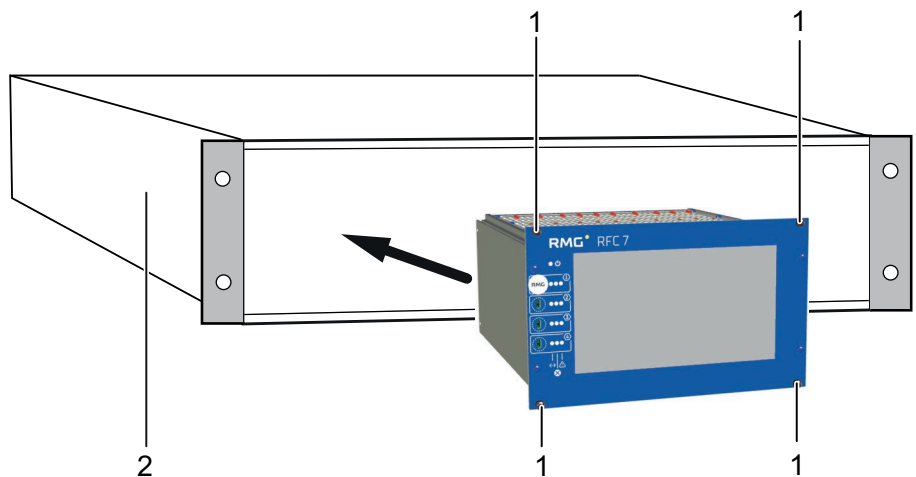
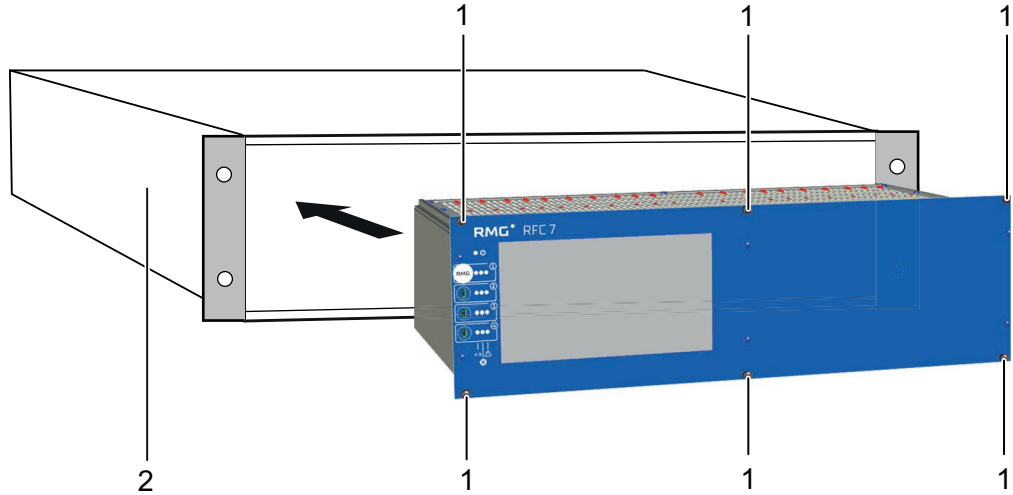

Fig. 17: Position of the screws on the front panel of the RFC 7 – Single-Stream
Fig. 18: Position of the screws on the front panel of the RFC 7 – Multi-Stream
2. Place the RFC 7 in the required position and slightly tighten the screws (fig. 17 and fig. 18, no. 1) with a cross-head screwdriver.